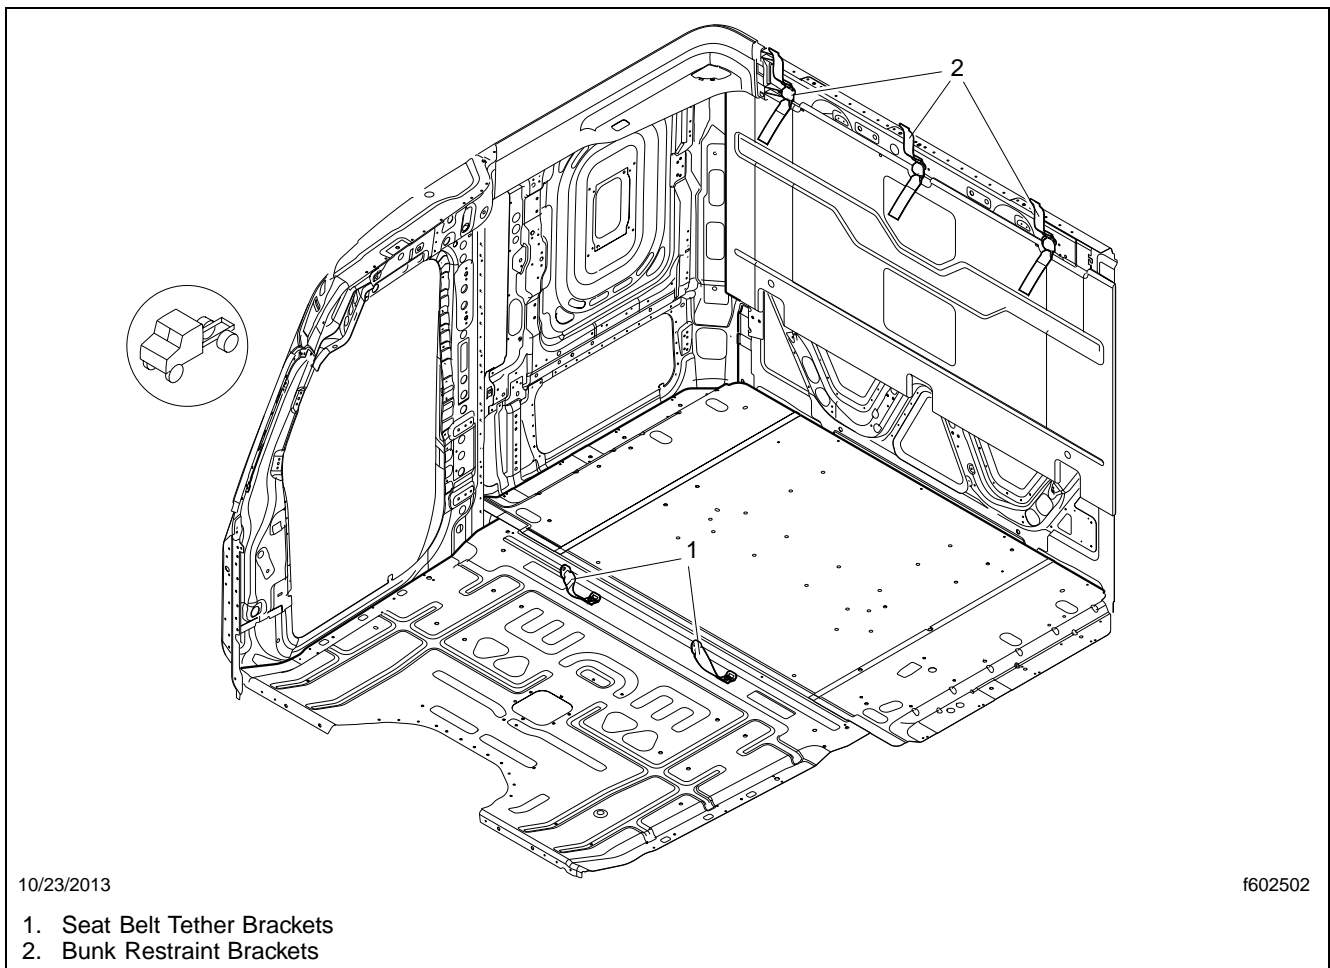

Fig. 1, FIT System Anchor Locations
3. Note the locations of the seat belt tether brackets and bunk restraint brackets. See **Fig. 1**. Using the instructions below, install the FIT anchors at these locations.